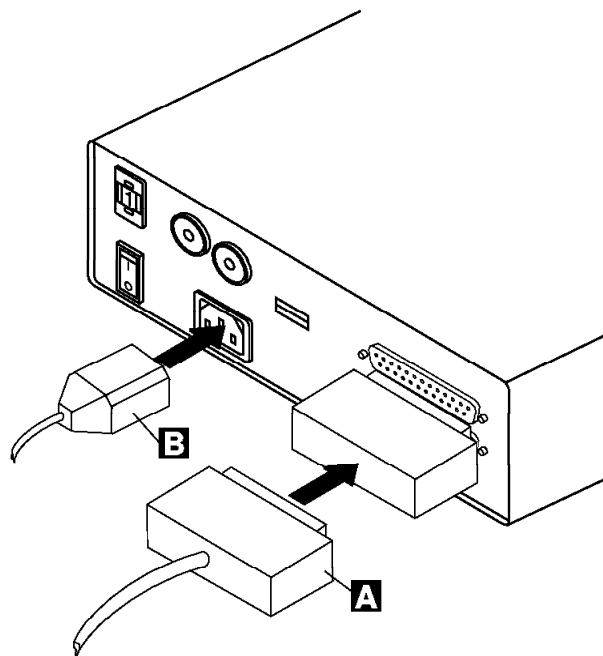

Figure 1. Power Cords Connection to the CD-ROM Drive.
- 4. Plug the power cord (PN 58G5783) into the power connector (See **A** on Figure 1), and